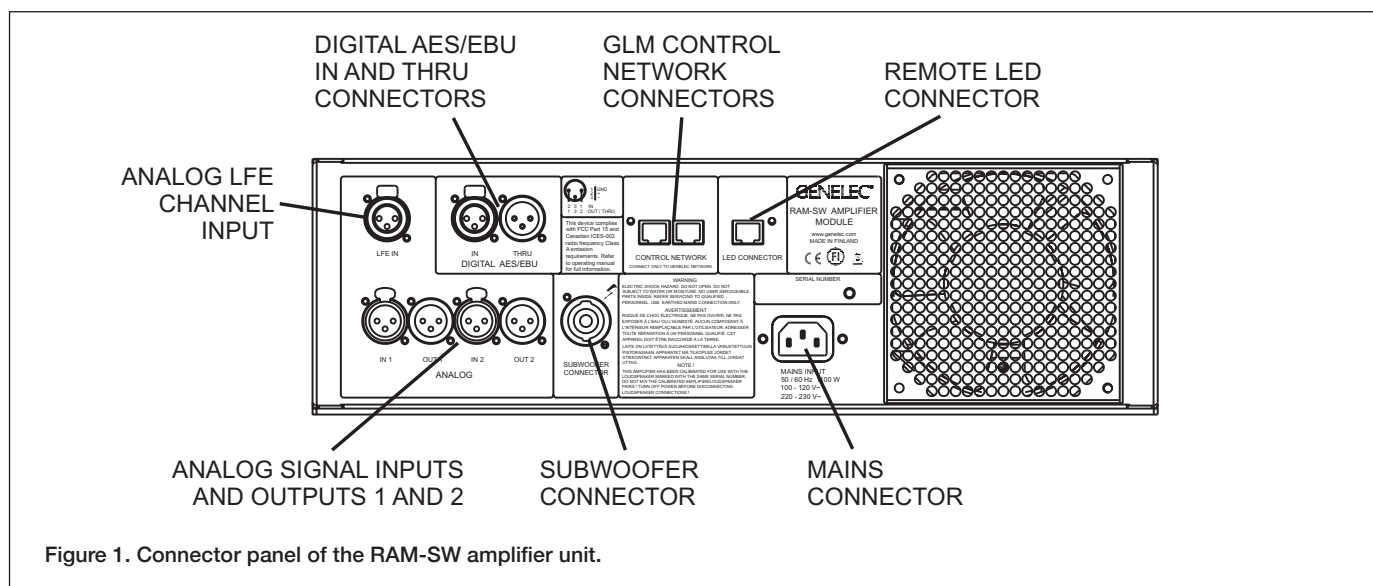

Figure 1. Connector panel of the RAM-SW amplifier unit.
- Connect a CAT5 or higher category (RJ45) cable between each monitor (and subwoofer) and finally to the control network input of the GLM Adapter device (see Figure 1).